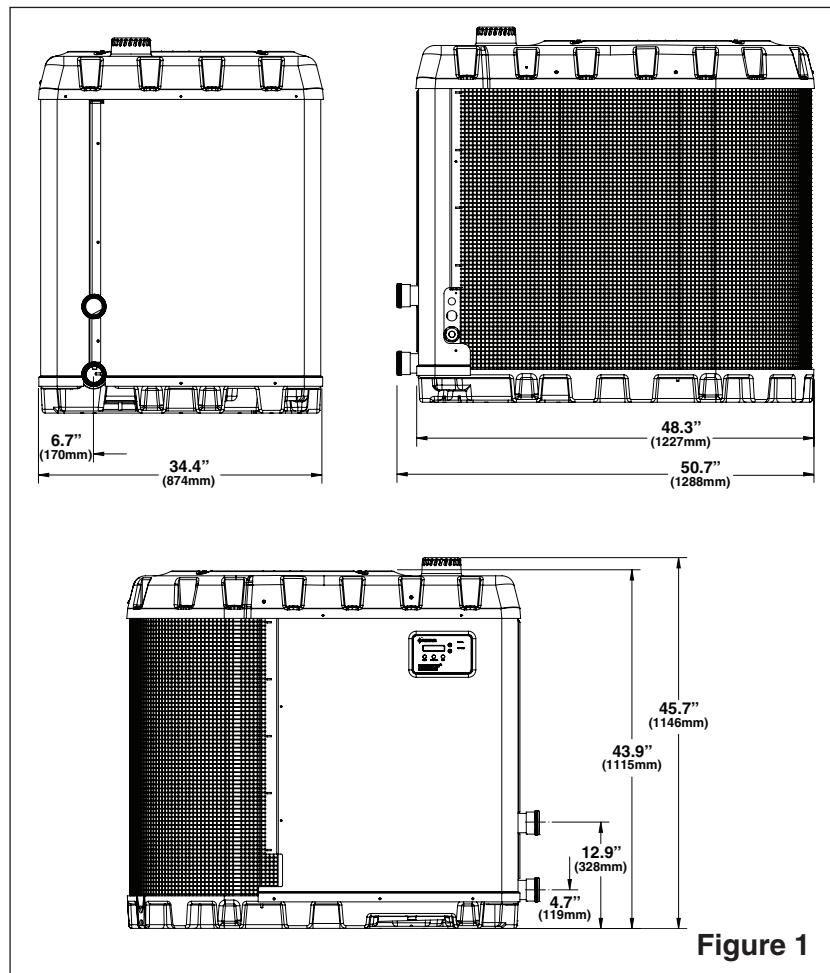

Figure 1
- Dimensions for critical connections (see **Figure 1**, page 2).